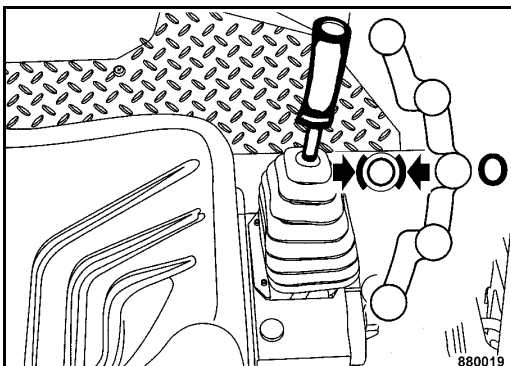

Fig. 54
- Shift the travel lever (Fig. 54) to position "0".